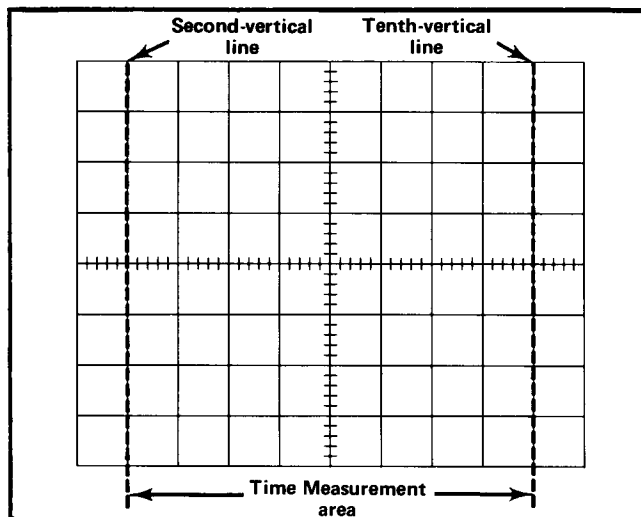

Fig. 2-8. Area of graticule used for accurate time measurements.
When making time measurements from the graticule, the area between the second-division and tenth-division vertical lines of the graticule provides the most linear time measurement (see Fig. 2-8). Therefore, the first and last division of the display area should not be used when making accurate time measurements. Position the start of the timing area to the second-division vertical line (second line from the left) and adjust the TIME/DIV switch so the end of the timing area falls between the second-division and tenth-division vertical lines.
5. Set the TIME/DIV switch to the fastest sweep rate that displays less than eight divisions between the time measurement points (see Fig. 2-8). (See the topic entitled Horizontal Sweep Rate in this section concerning non-linearity of first and last divisions of a display.)